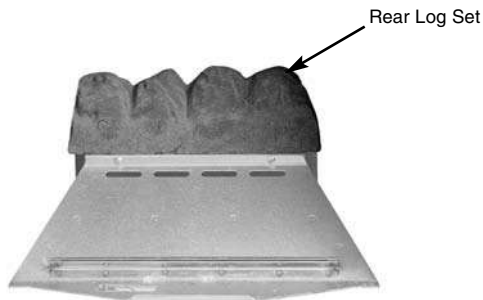

Fig. 37
1. Place the rear log set on the rear ceramic retainer ledge in a central position (Fig. 37).